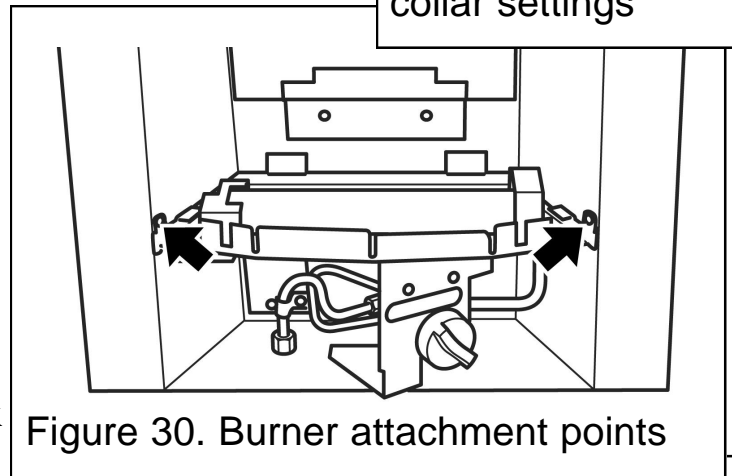

Figure 30. Burner attachment points
4. Detach the burner unit from the hotbox by removing two screws –See figure 30.